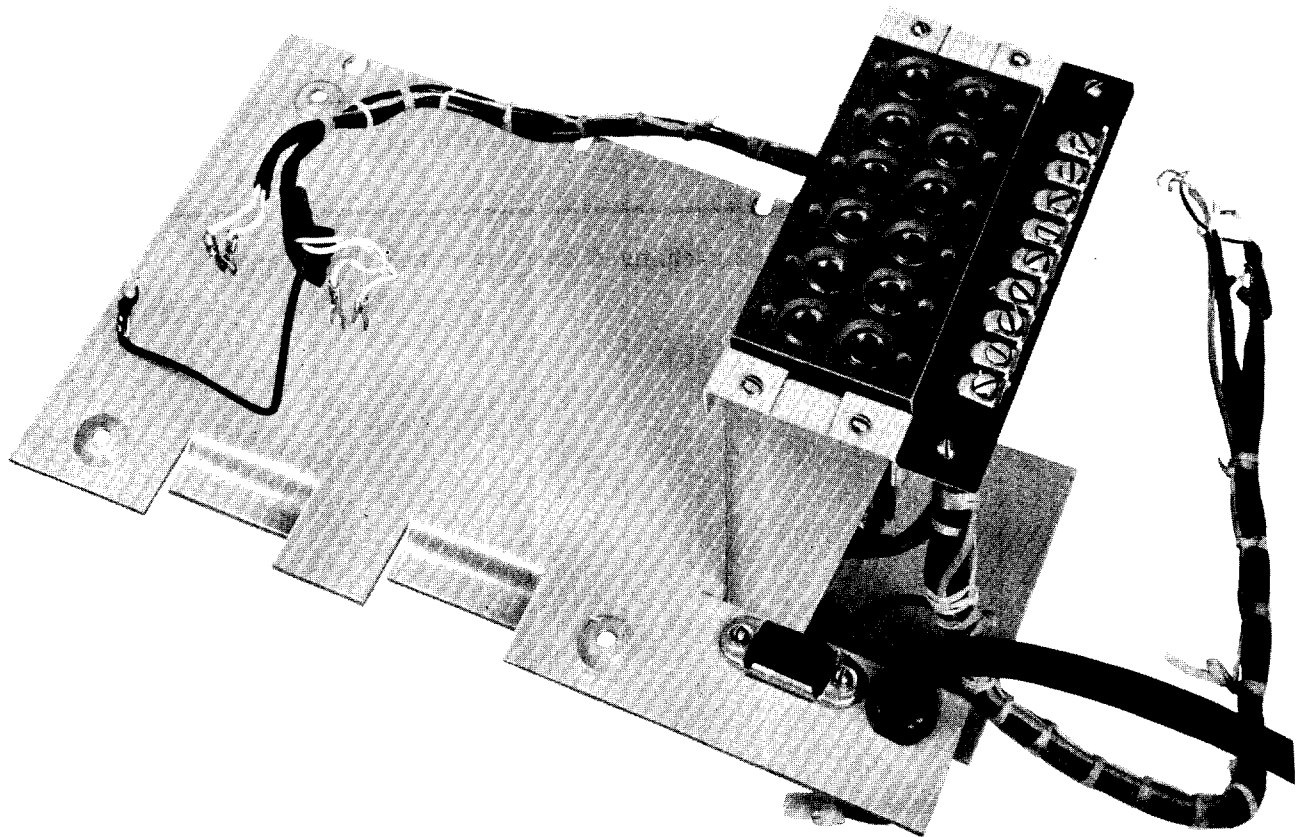

Fig. 6 - List 6 Bracket Assembly
1.08 The KS-16831, List 6 bracket assembly shown in Fig. 6 is a subassembly for mounting in a list 5 carrying case. It consists of a metal frame, six 410D jacks, a terminal strip,